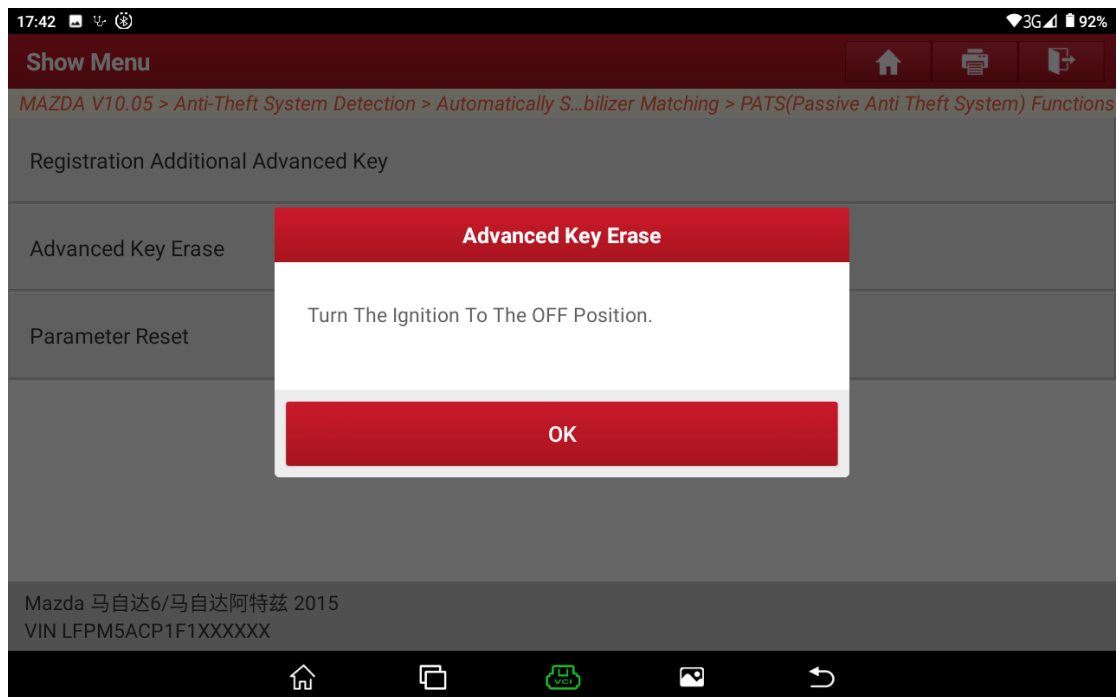

Figure 24
22. Turn off the ignition switch. See Figure 24.